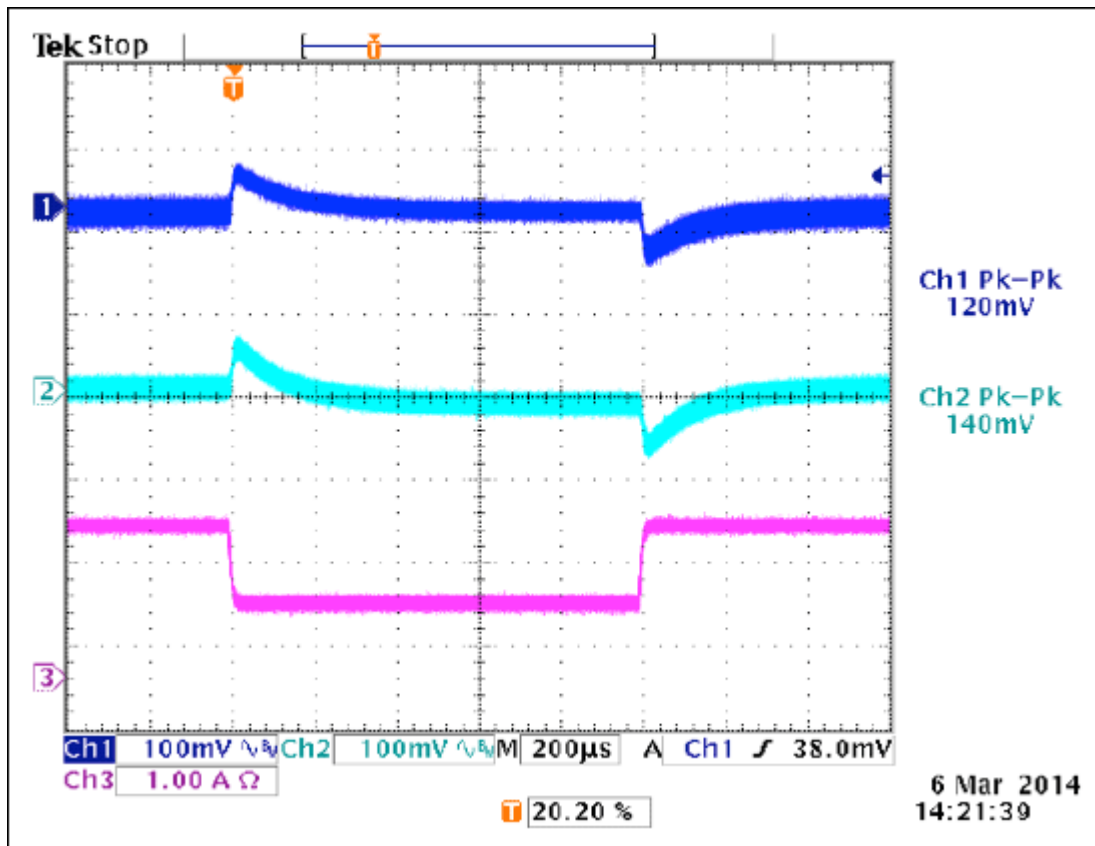

Figure 3. Load step at 3.3V (100%, 50%, 100% of 1.8A), 40V input, 5V at 0A. CH1: 3.3V rail, CH2: 5V rail, CH3: 3.3V rail current.
**Figures 3–14** show transient response of 3.3V and 5V outputs when stepped from 100% to 50% to 100%. Figures are shown for input voltages of 40V, 48V, and 57V, and secondary rail outputs of 0A and maximum current.